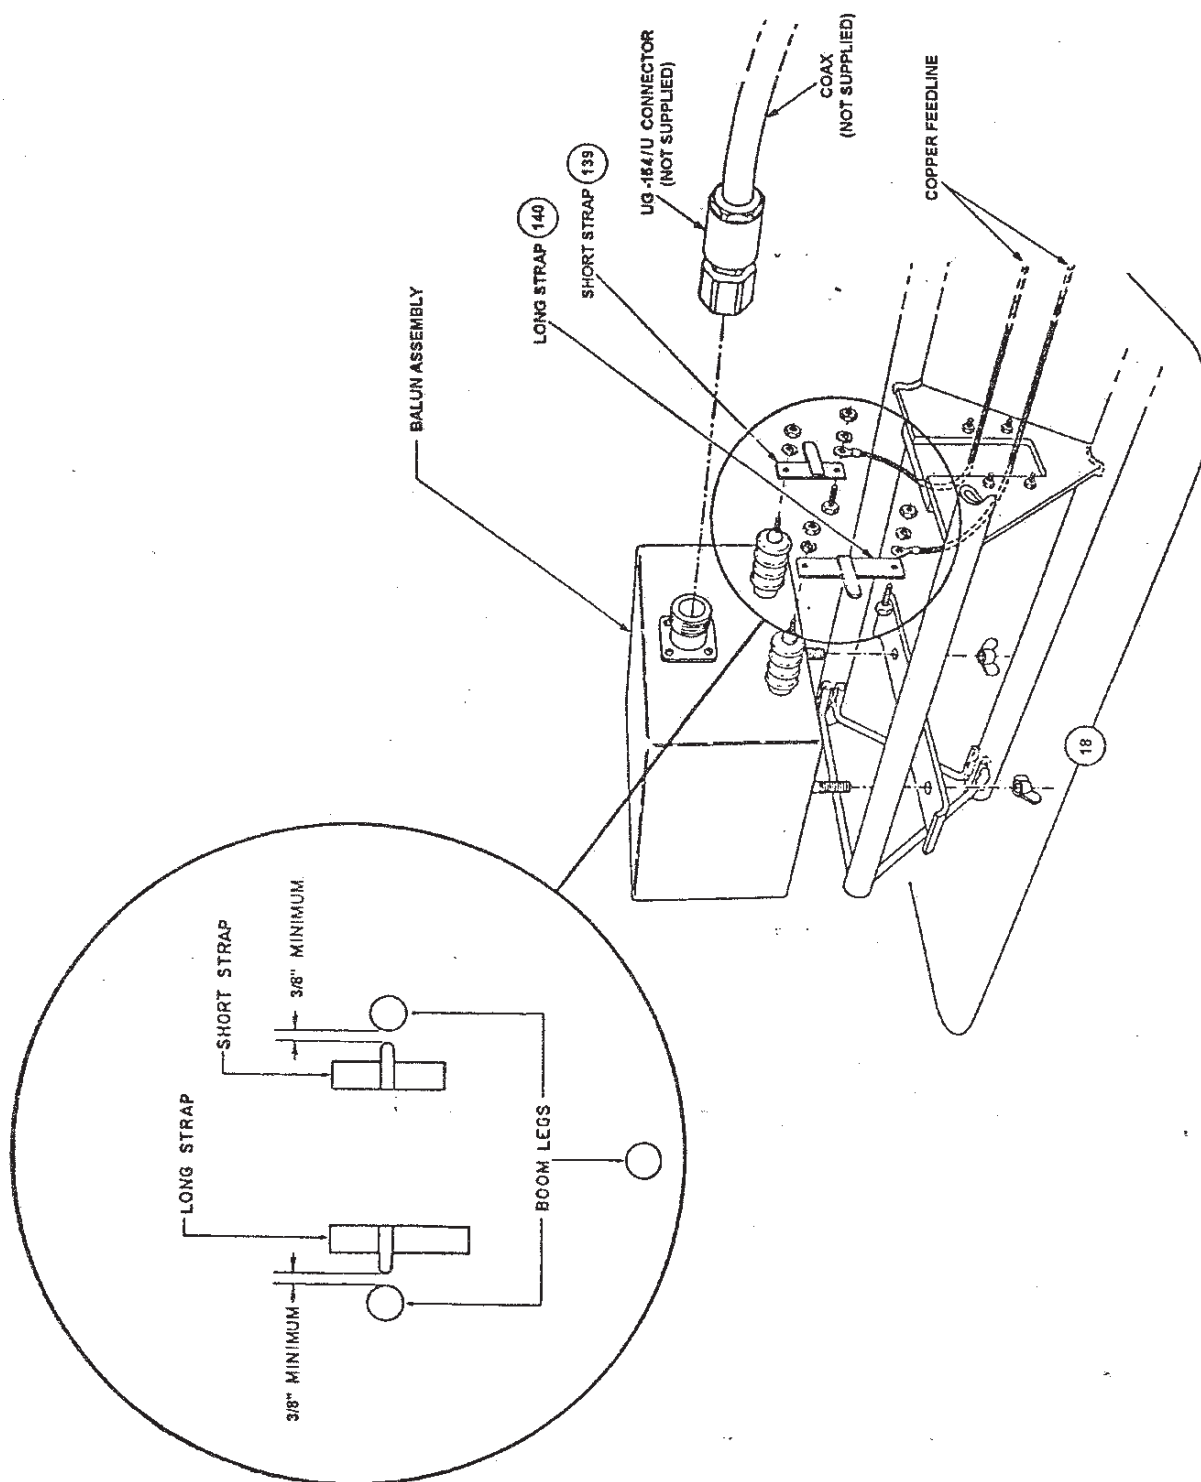

Figure 2-37
- h. Mount the 10kw balun assembly on the boom extension as shown in Figure 2-37. Inspect the balun to be sure it is filled with oil.
- l. Connect the solder lugs of the feedline (at the front end of the boom extension) to the balun-insulators as shown in Figure 2-37.
- t. Figure 2-45 identifies the antenna coax. The coax connects directly to the 50 ohm coaxial input connector (Type LC) on the balun as shown in Figures 2-37 and 2-45.